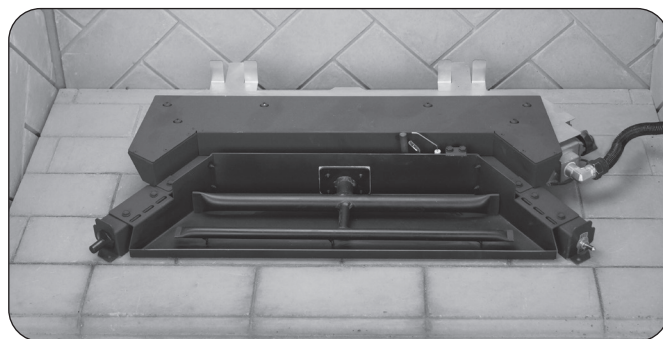

Fig. 14-2 Position burner pan in fireplace
3. Place the burner system in the fireplace. Center the burner from left to right, and position as far back in the fireplace as possible. See Fig. 14-2.
Important: Ensure the pan is properly placed per step 3, and rests level on the fireplace floor. Adjust if necessary. See Fig. 14-2 and 14-3.